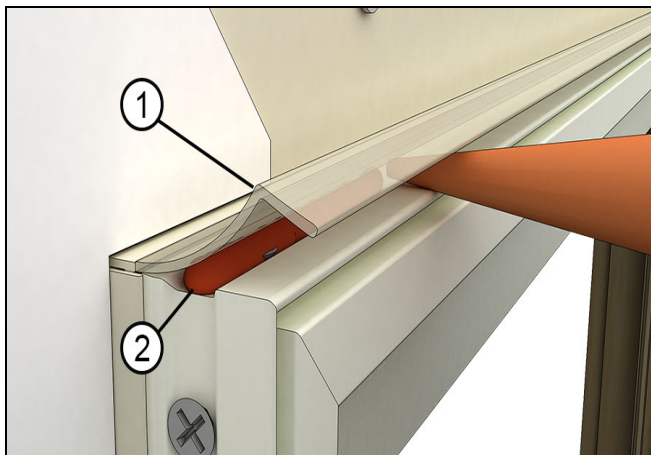

Figure 14
5. Apply a continuous bead of sealant beneath the vinyl drip cap along the top of the head jamb as shown in Figure 14